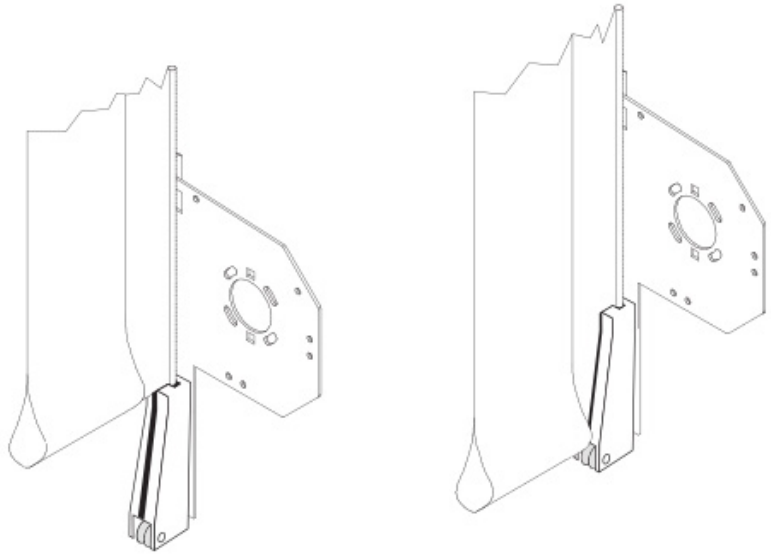

Figure 7: Inserting The Retaining Edge
5. Reinsert the profile assembly into the reintroduction block on both sides. (Figure. 7 Page 13)